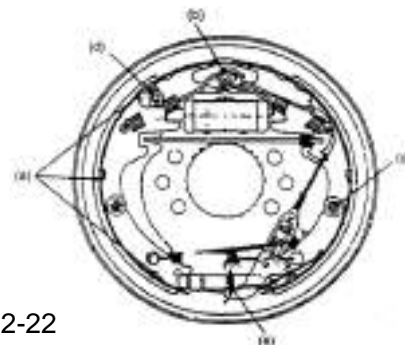

Fig.2-22
(1) Apply brake fluid to the piston and the piston cup, and reinstall the spring, the piston, cup and the dust cover in this order.
(2) Install the operating cylinder on the backing plate.
(3) Install the backing plate on the front axle.
(4) Apply grease on the points indicated in Fig.2-22, with care not to contaminate the friction piece with grease.